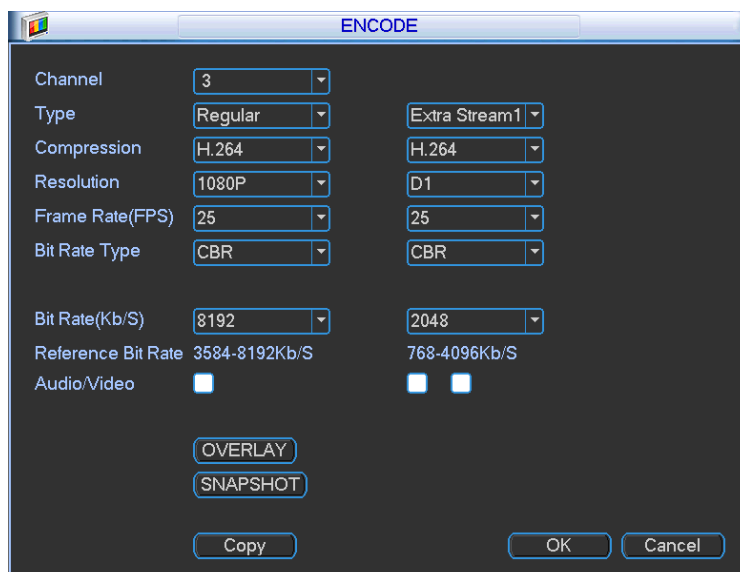
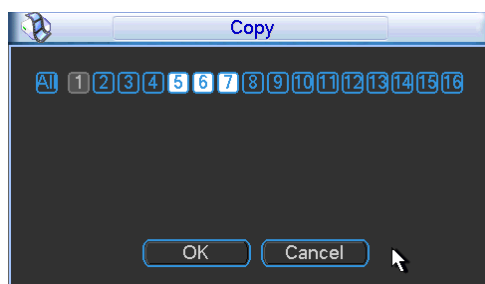
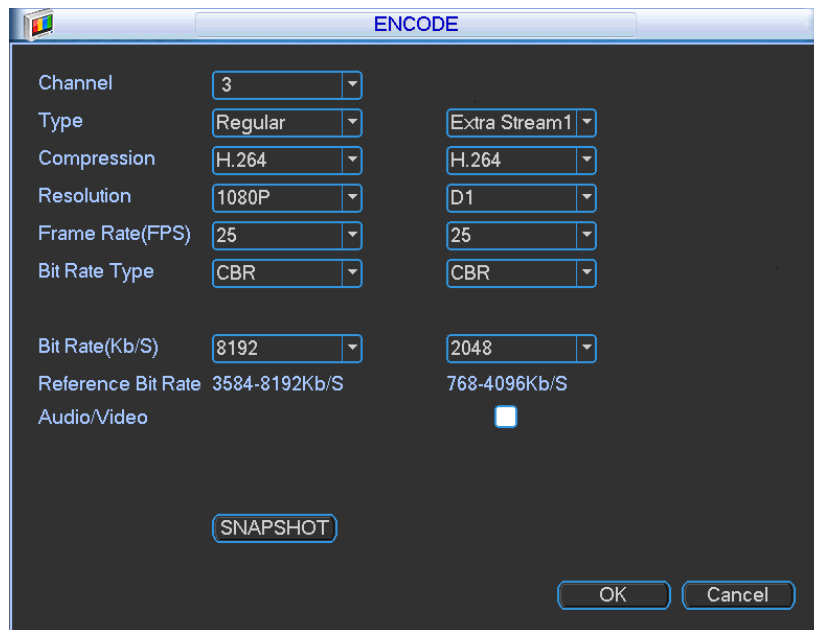

Figure 4-26
Figure 4-28
Figure 4-29
Encode setting includes the following items. See Figure 4-26.
- ✧ Copy: After you complete the setup, you can click Copy button to copy current setup to other channel(s). You can see an interface is shown as in Figure 4-28. You can see current channel number is grey. Please check the number to select the channel or you can check the box ALL. Please click the OK button in Figure 4-28 and Figure 4-26 respectively to complete the setup. Please note, once you check the All box, you set same encode setup for all channels. Audio/video enable box, overlay button and the copy button is shield. See Figure 4-29.